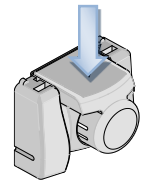

Figure 8.11
2. Press the red insert down as far as it will go. See Figure 8.11.